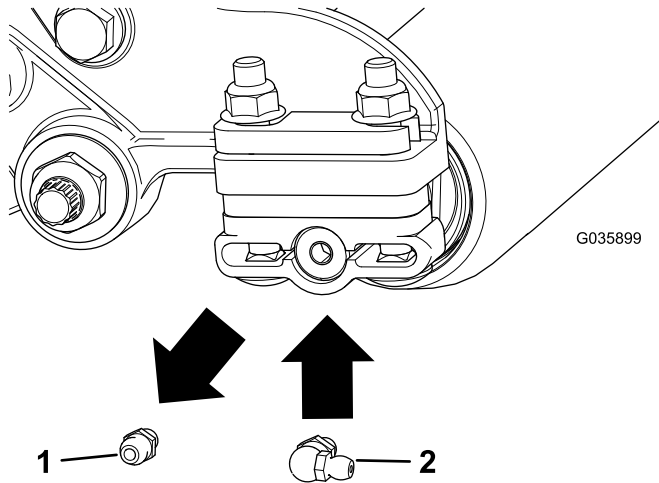

Figure 3
1. Remove the straight grease fitting and install the 90° grease fitting in the same spot (Figure 3).